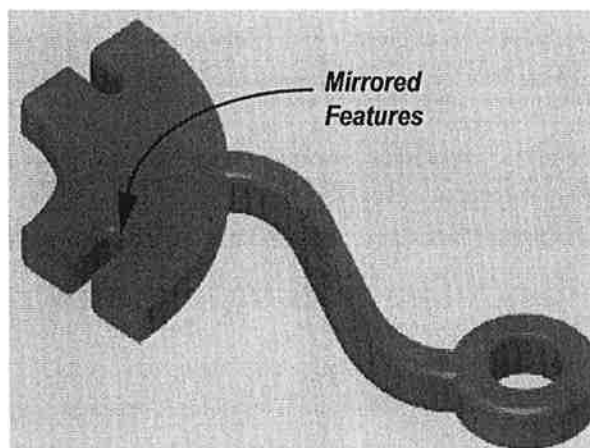

Figure 13-7
6. Click **OK** to mirror the features. The model displays as shown in Figure 13-7. The construction plane has been removed from the display in this image for clarity.